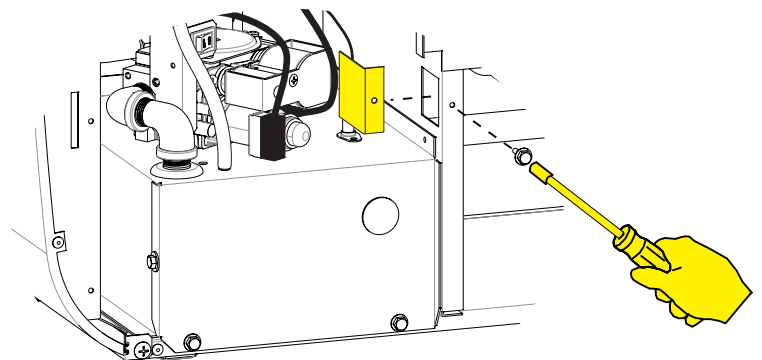

Figure 8
- Remove the hex head screw securing the partition panel block plate with the 5/16 nut driver and remove the block plate. Discard the partition panel block plate and retain the screw. See **Figure 8**.